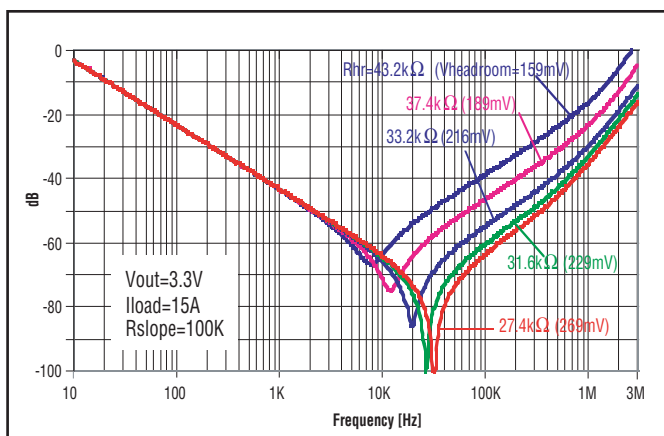

Figure 7 – Attenuation curves without slope adjust.
Figure 7 shows the relationship of the headroom voltage versus attenuation of the QPO-2 for a 3.3 volt output with a 15 amp load. This relationship is relatively constant over the full output voltage rating of the product so this graph can be used for the 0.3 V to 5.5 V range when selecting the headroom voltage. The value of headroom resistor will be dependent on desired output and headroom voltages. The selection of the final headroom voltage should be based on the maximum expected ripple, desired attenuation, based on the curves in Figure 7, and the transient response time of the converter. Formulas for SC current setting resistor,  $R_{SC}$  and the  $R_{CP}$  clamp setting resistor, are provided in their respective sections. The headroom range indicated in Figure 7 shows that increasing the headroom voltage will increase the attenuation, up to a point of diminishing returns, over the range of 10 kHz to over 1 Mhz. With an external 25  $\mu\text{F}$
To ensure sufficient headroom during transient load changes, a greater headroom voltage than what would normally be set based on maximum ripple should be considered. To provide margin to cover the instantaneous drop in the converter output and the line drops, additional headroom will be needed. In the example shown in Figure 2 an additional 75 mV was included with the headroom voltage value selected from the graph in Figure 7 to cover the instantaneous drop in the supply output during the 10 Amp step as explained below.
In Figure 2, a maximum load of 10 Amps allowed for the RHR value to be calculated to provide 375 mV of headroom to avoid exceeding 4 Watts. In this example, based on the attenuation graph in Figure 7, 300 mV of headroom is the point of diminishing returns so the maximum attenuation would be achieved at the fundamental ripple frequency. To stay within the dynamic range required by the active loop during a transient, a total of 375 mV was used in the formula to determine the RHR resistor value. The peak detector will dynamically add 30 mV (derived from the 60 mV peak to peak input ripple) to the static headroom setting providing the total dynamic headroom of typically 405 mV with the detector enabled.
- No slope adjust, no peak detect, fixed headroom, attenuation vs headroom graph in Figure 7 apply